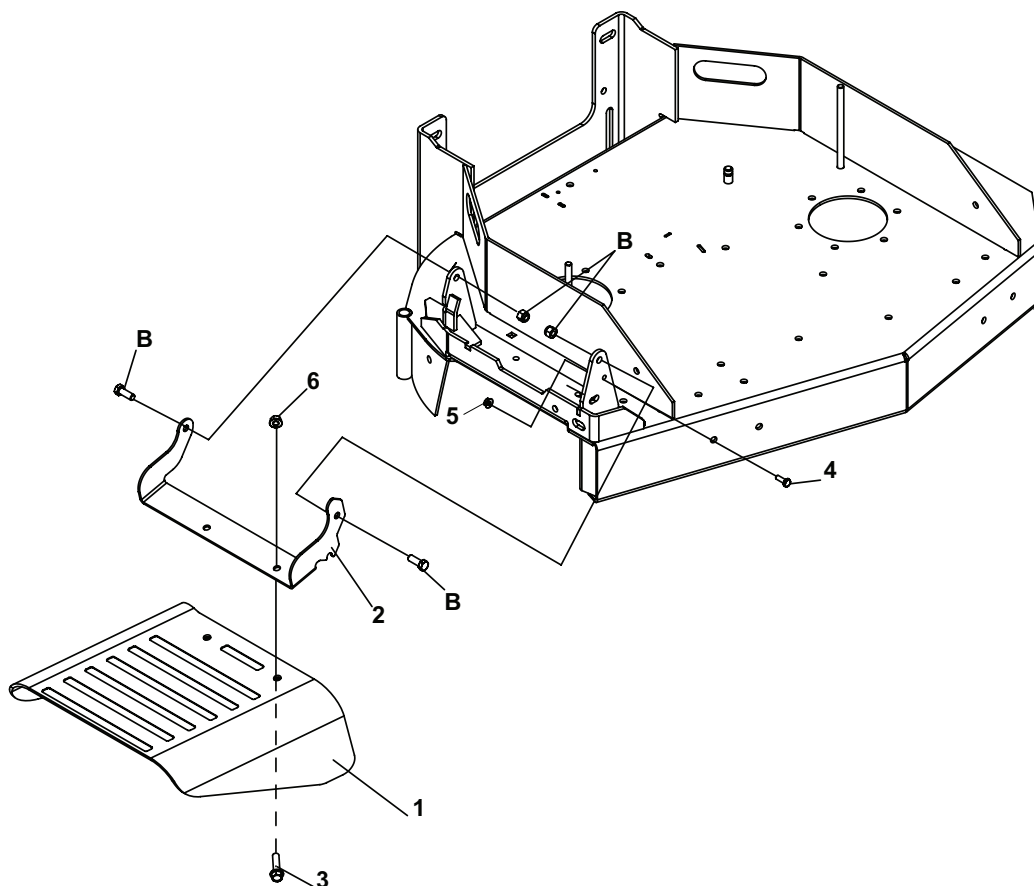

FIGURE 3
3. Attach chute assembly to cutterdeck using hardware from Step 1. Figure 3 Tighten so chute can be raised and lowered freely without any play in fasteners.
4. With chute in down position, assemble nut and bolt in drilled hole for chute stop. Figure 3